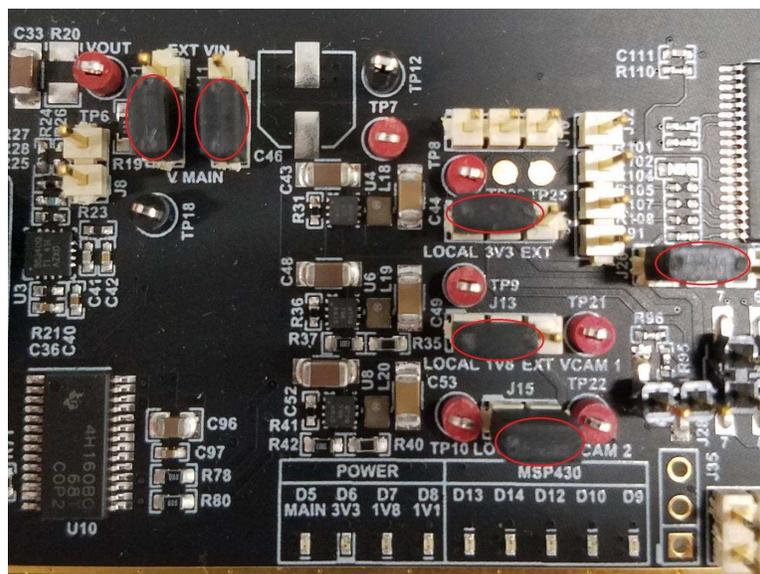

Figure 8. Board Jumpers
1. Configure the power supply. Add and verify jumpers in the following locations (see Figure 8):